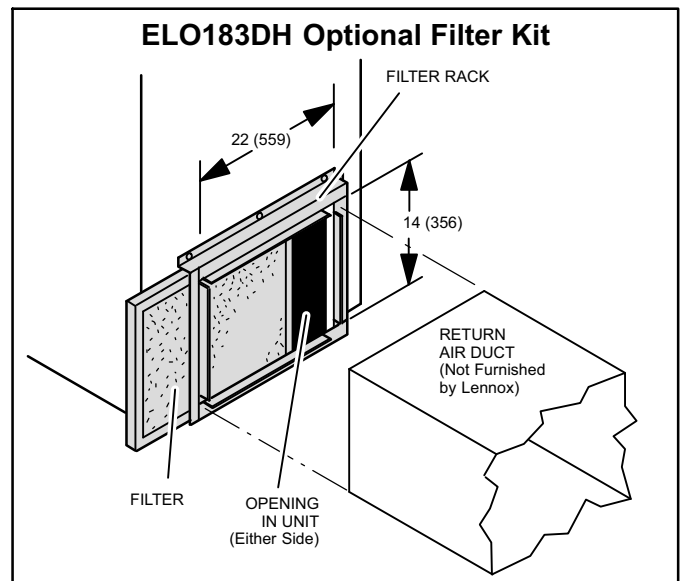

Figure 11
2. Using a scribe through the filter rack mounting holes, mark seven mounting hole locations in the return end of the cabinet. See figure 11.